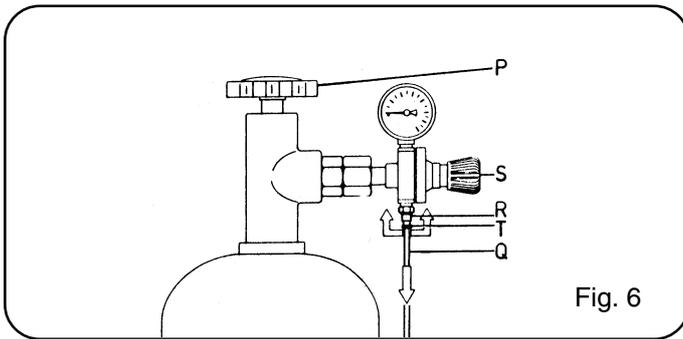

Fig. 6
8.2 REFILLABLE CYLINDERS (see fig.6)